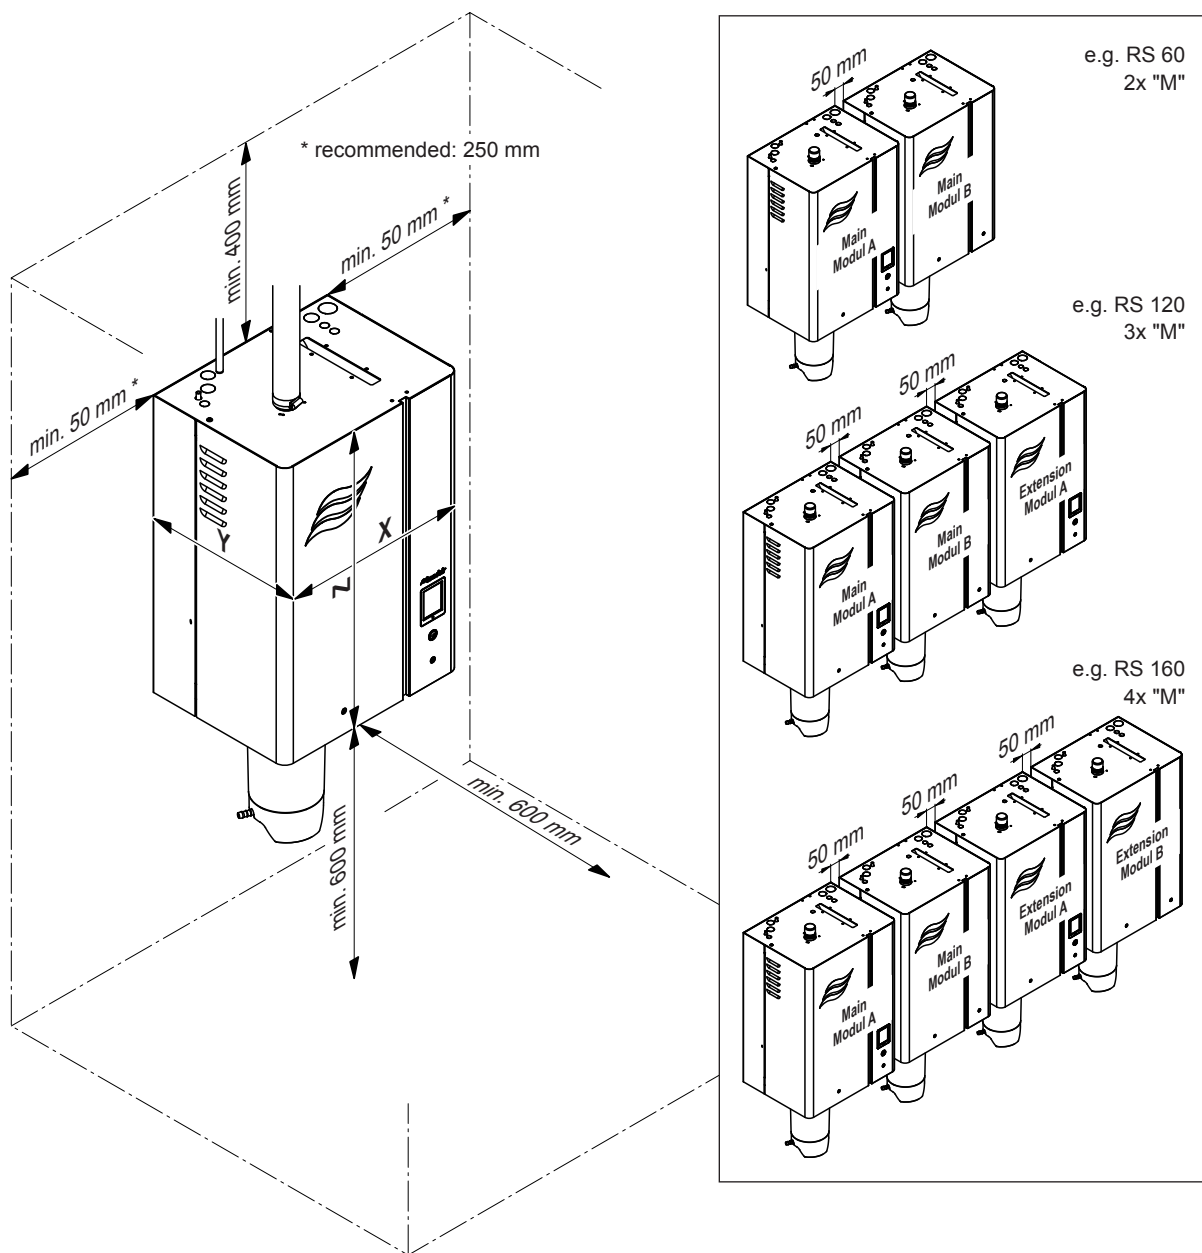

Fig. 9: Distances to be observed
- Install the Condair RS in such a manner that it is **freely accessible** with sufficient space available for maintenance purposes. The **minimum distances** shown in Fig. 9 **must be maintained**.
- In order to use the cables supplied with double units and Linkup systems, the unit must be mounted on the same height, with a maximum distance between the units of 50 mm and in the order shown in Fig. 9.